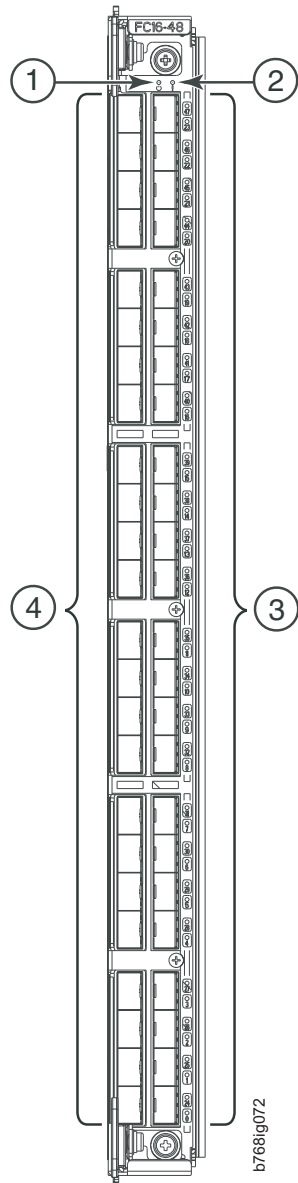

Figure 55. FC16-48 port blade
- Figure 55 on page 179 shows an FC16-48 port blade